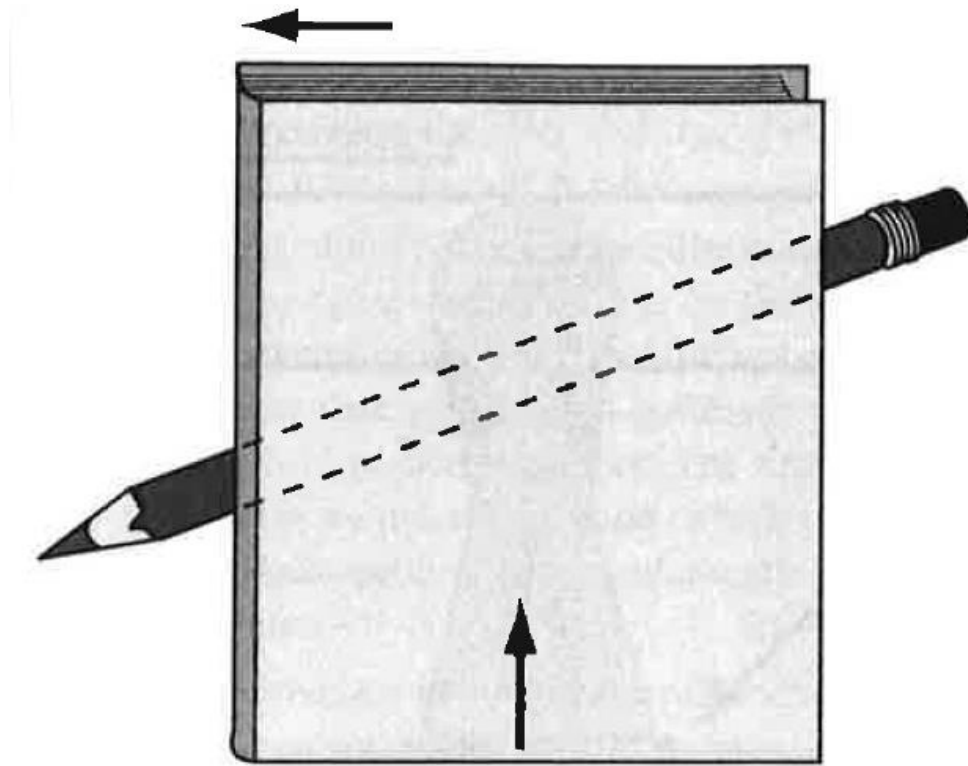

Figure 12 – Tacking Demonstration
- The illustration see in figure 12 demonstrates the basic principle used to track board belts. Lay a pen or pencil on table top on and angle in relation to the book placed on top of it. Then push the end of the book and see the resulting movement of the book